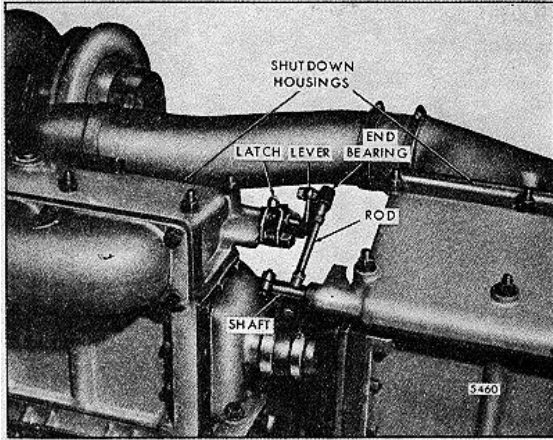

FIG. 5 Dual Air Shutdown Housing Mounting
4. When dual air shutdown housings (Fig. 5) have been installed, position the crossover shaft and manual shutdown lever between the housings.